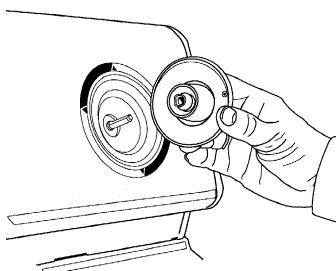

Figure 4-7
2. Carefully lift the timer knob and dial off the timer shaft by pulling the knob away from the face of the control console (**Figure 4-7**).